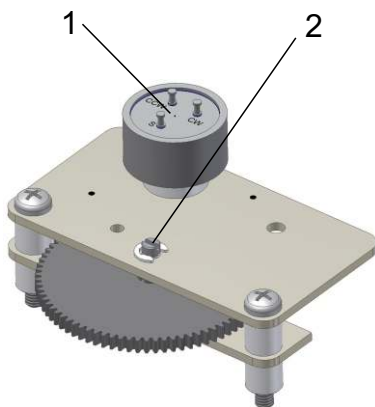
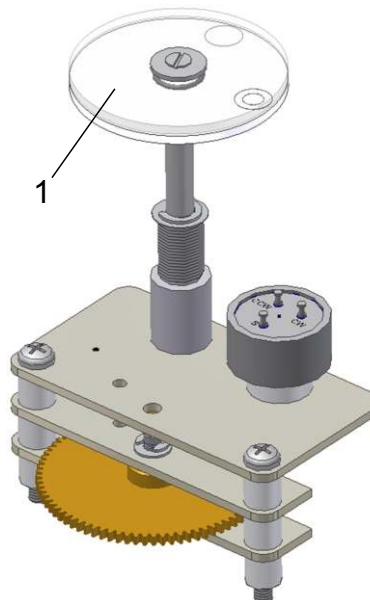
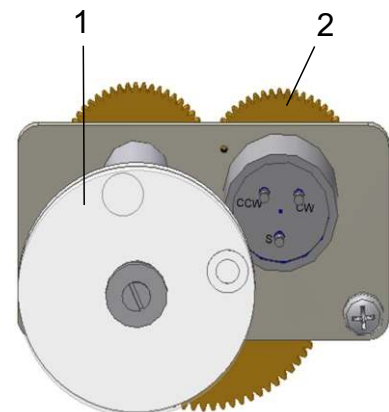
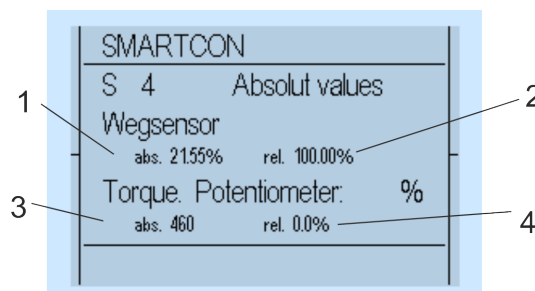

Figure 20: 1...potentiometer for position sensing, 2...slotted shaft for turning the potentiometer
Figure 21: 1...mechanical position indicator
Figure 22: 1...mechanical position indicator, 2...wheel turning the potentiometer
Figure 23: 1... absolute value of the position unit, 2... value for the torque unit (is factory adjusted)
- For units without mechanical position indicator turn the slotted shaft (see Figure 20) with a screwdriver carefully until the below value is reached (see Figure 23)
- For units with mechanical position indicator turn the wheel (see Figure 21 and Figure 22) until the below value is reached (see Figure 23)